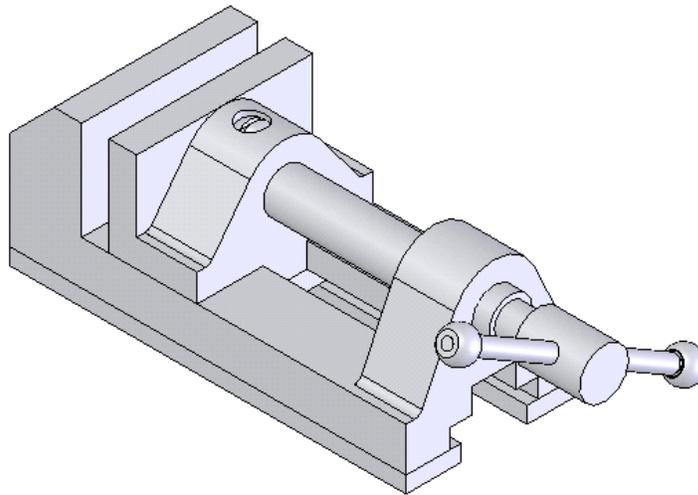
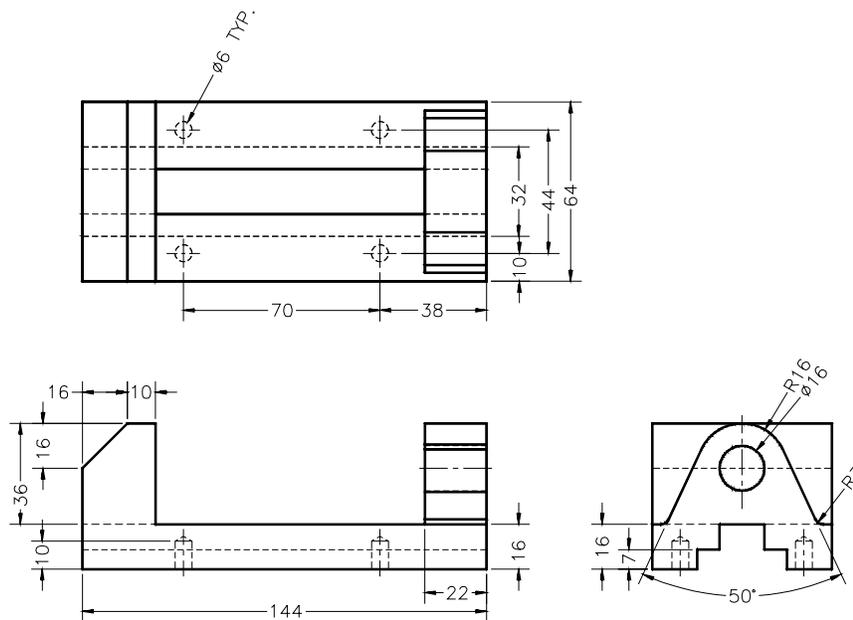

Figure 10-49 Bench Vice assembly
Figure 10-50 Views and dimensions of the Vice Body
In this tutorial you will create all the components of the Bench Vice and then assemble them. The bench vice assembly is shown in Figure 10-49. The dimensions of the various components are given in Figures 10-50 through 10-53. **(Expected time: 2 hrs 45 min)**
1. Create all the components of the Bench Vice assembly as separate part documents. Specify the names of the files as shown in Figures 10-50 through 10-53. The files should be saved in the directory */My Documents/SolidWorks/c10/Bench Vice*.